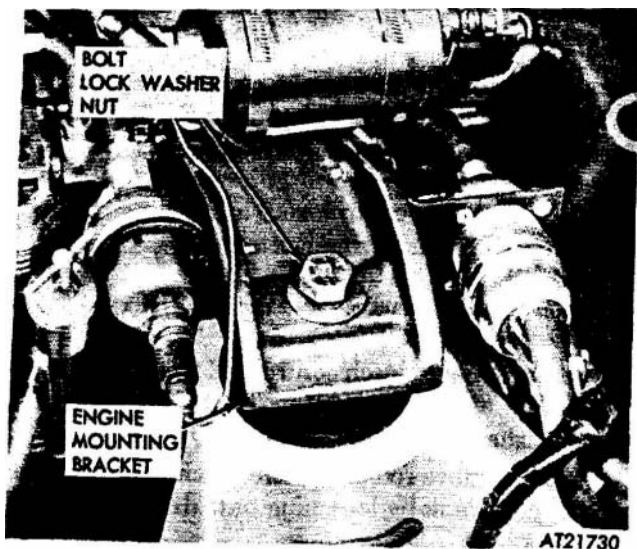
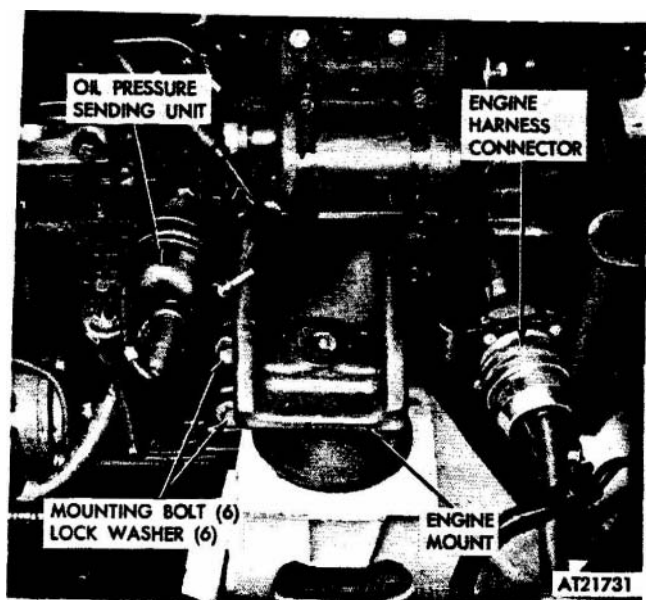

Figure 2-76. Left rear engine mounting bolt.
Figure 2-77. Left rear engine mount.
(4) Remove bolt, lock washer, and nut securing engine mounting bracket to tractor hull (fig 2-76). Loosen mounting bolt on other side.
(5) Remove oil pressure sending unit and harness mounting brackets from engine mount by removing attaching screws, lock washers, and washers (fig 2-77).
(6) Remove engine mounting bracket from engine by removing six screws and lock washers.
- (1) Attach engine mounting bracket to engine using six screws and lock washers (fig 2-76).
- (2) Install mounting bolt, lock washer, and nut.
- (3) Relieve strain on engine and remove lifting sling.
- (4) Attach oil pressure sending unit and harness mounting brackets to sides of engine mount with attaching screws, lock washers, and bolts (fig 2-77).
- (5) Tighten both engine mounting bolts and torque to 55-65 **lbs.ft.**
- (6) Close and secure *engine* cover (refer to TM 9-2320-242-10).